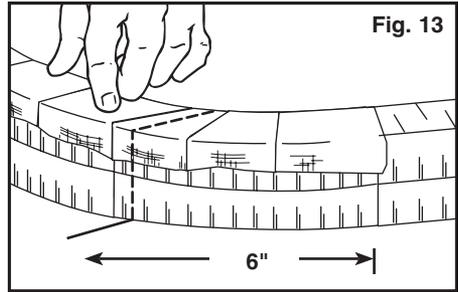

Fig. 13
2. To apply Plaster Cloth, hold the piece by the corners, dip it in water and place on Risers with the bumpy side up. Sheets should overlap sides of Riser about 1/2" to 1" (Fig. 13).
3. Starting approximately 6" outside the Tunnel Portals (marked on the pre-printed track plan) and working inward, lay strips of Plaster Cloth on Risers. Smooth wet plaster bumps with wet fingers until holes in cloth are filled in and smooth (Fig. 13). Plaster Cloth must be flat and smooth under Track-Bed (see next section).